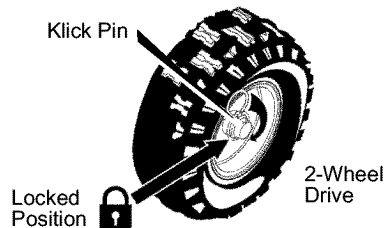

Figure 10
1. The left hand wheel is secured to the axle with a **klick pin**. This unit was shipped with this klick pin in the **locked position (through wheel hole)**. See Figure 10.